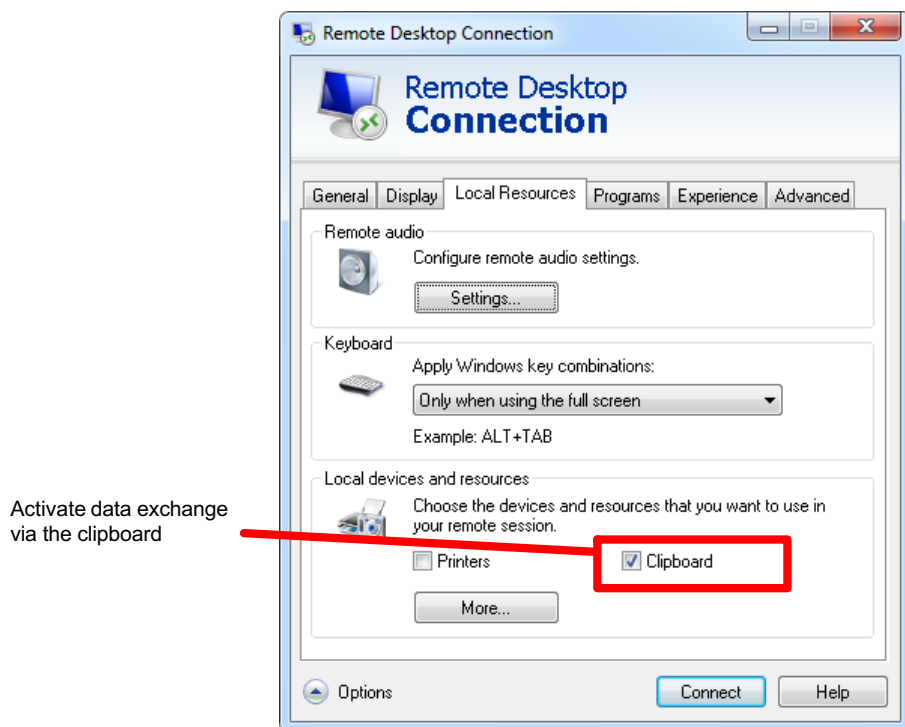

Fig. 7.11 Remote desktop connection **Local resources** tab
1. Go to the **Local resources** tab and activate **Clipboard**, for example, and/or **Printer** (Fig. 7.11).